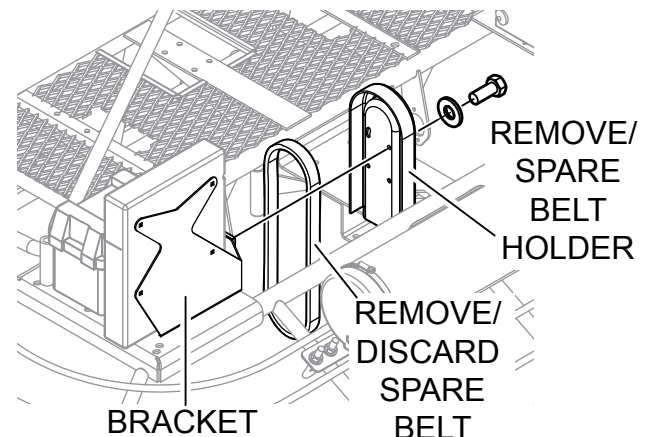

Figure 6. Spare Belt Removal
Reference Figure 6.
1. Reinstall spare belt holder with existing mounting hardware and 2 new spare belts (P/N 2242 or 11048). See Figure 6.